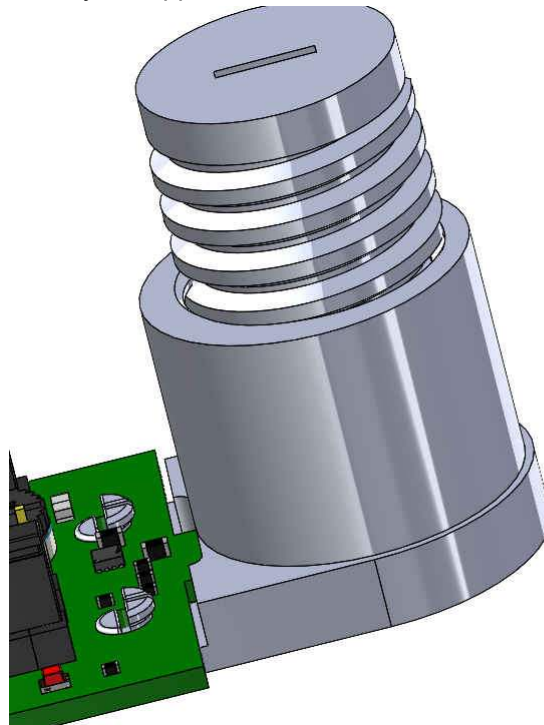

Figure 5-24. Screw Placed at Top of Base
2. Place the screw at the top of the base (see Figure 5-24). As the screw is brought near the top of the base, the sensed magnetic flux density will approach around 2 mT.